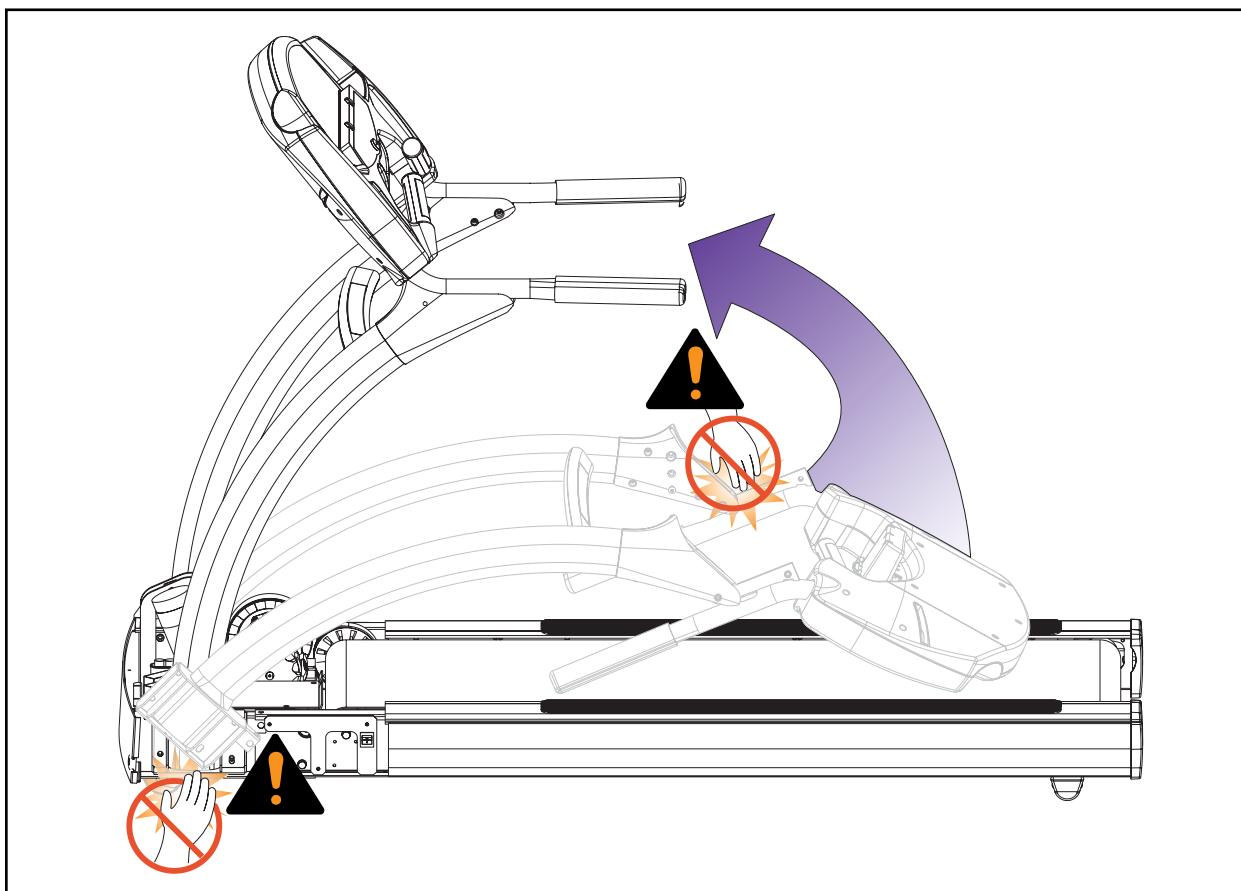

Figure 3
! CAUTION: Do not pinch your hands or other body parts while pivoting the treadmill. See Figure 3.
C. Raise the console and uprights into position (they will pivot into place). **NOTE:** Confirm that no cables are pinched while raising the unit. See Figure 3.